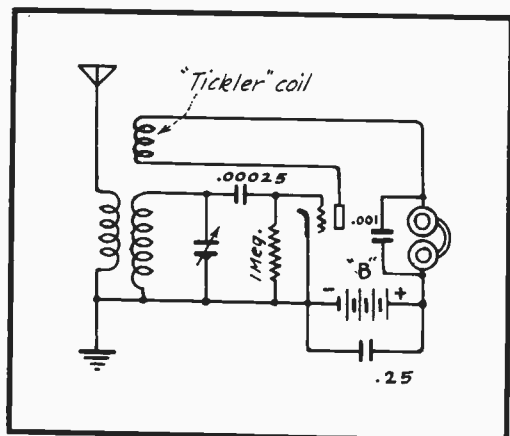
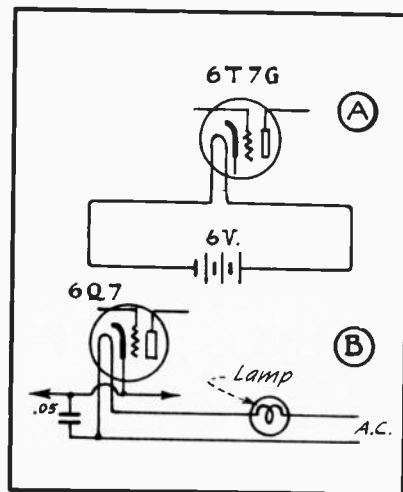

FIG. 4
FIG. 5
In Fig. 4 of this lesson is shown the schematic diagram of the receiver that you are about to construct. As you will observe, a heat er-cathode type triode is employed in a regenerative detector circuit. This type of receiver is not used commercially at present due to the extreme care required to tune-in the desired signal. However, the regenerative detector circuit is extremely sensitive. Regeneration is accomplished by using a regular antenna coil in conjunction with an additional coil, known as the "tickler" or feed-back coil. The rest
Further study of Fig. 4 will disclose that a 45-volt battery is used as the B supply, and that the headphones are connected in series with the B+ terminal, tickler coil and the tube's plate. The .001 mf condenser is connected across the headphones to bypass the r-f component of the plate current. The same applies to the .25 mf condenser which is connected across the B battery. The filament circuit has been omitted from Fig. 4, because it has no direct bearing upon the operation of the receiver. However, it is shown in detail in Fig. 5.
periments, you can eliminate the battery from the filament circuit and instead connect the filament of your 6Q7 tube across the a-c line, also connecting a lamp in series with the circuit as shown at (B) of Fig. 5. If the circuit is of the 110-volt type, use a 110-volt lamp of a 25 to 40-watt rating; if the circuit is of the 220-volt type, use a 75-watt, 220-volt lamp.
If no electric lighting circuit is available in your district, you may use circuit (A) of Fig. 5 by employing a type 6T7G tube and connecting its filament across a 6-volt storage battery or across four dry cells connected in series. If an a-c lighting system is available for your ex-